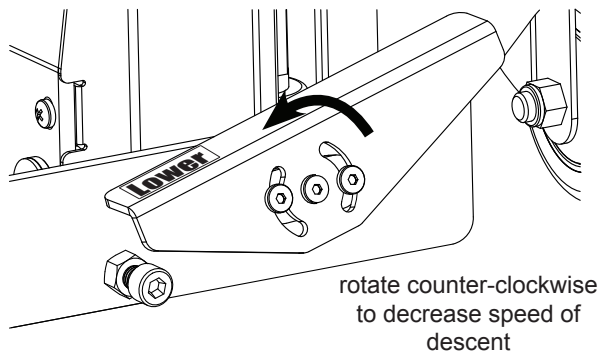
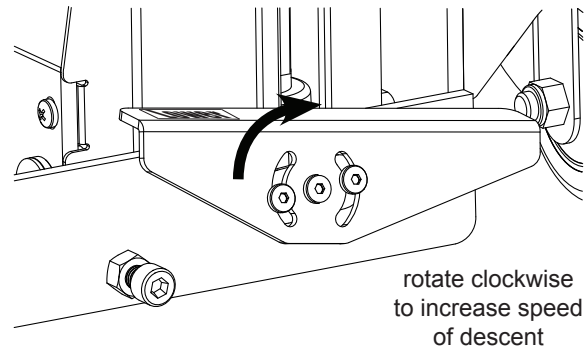

Fig. 4
Fig. 5
2. To decrease the speed at which the saw lowers, rotate the release lever counter-clockwise a small amount (see Fig. 4). To increase the speed at which the saw lowers, rotate the release lever clockwise a small amount (see Fig. 5).